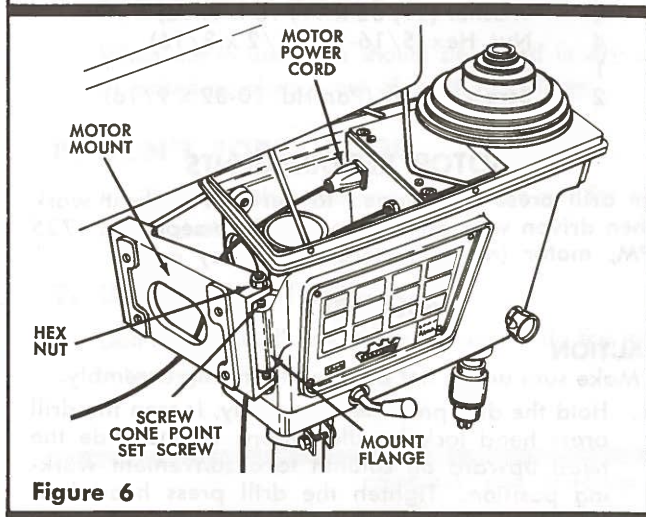

Figure 6
2. Align cone point set screws with holes on the mount flange at rear of drill press head (see figure 6). Using hex wrench, tighten cone point set screws one at a time until motor mount is centered on mount flange.